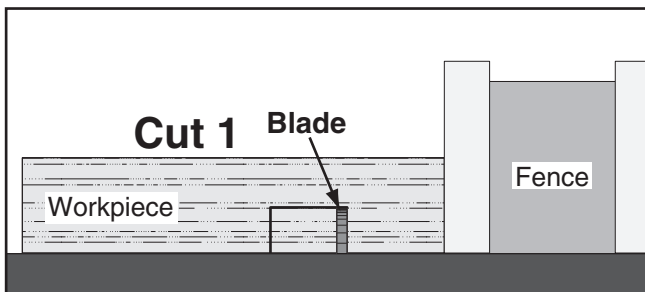

Figure 62. First cut for a single-blade dado.
- Align blade to cut one side of dado, as shown in **Figure 62**.